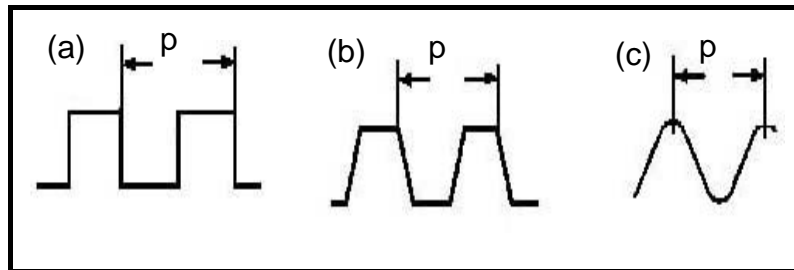

FIGURE 1.3
- 1.8 Identify the types of screw threads shown in FIGURE 1.3 (a), (b) and (c) respectively.